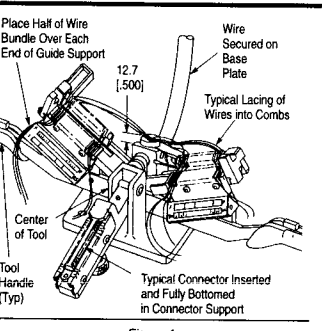

Figure 4
a. **If Lacing on Tool**—Open cable clamp and insert wire until sheathing extends approximately 12.7 [.500] above the base plate. Hold wire in position and close the wire clamp. See Figure 4.
9. Lace wires into combs. When lacing on tool, start toward the center; when lacing on fixture, start toward the end nearest detent lock on lacing fixture. Take wire from one side (LEFT or RIGHT) and lace wire through rear comb teeth and into corresponding position in front comb teeth. While keeping wire taut, bend wire under front comb and, when lacing on tool, around inside of guide supports. See Figures 4 and 5.
- b. Open cable clamp and insert wire until sheathing extends approximately 12.7 [500] above the base plate. Hand wire in position and close cable clamp. See Figure 4.